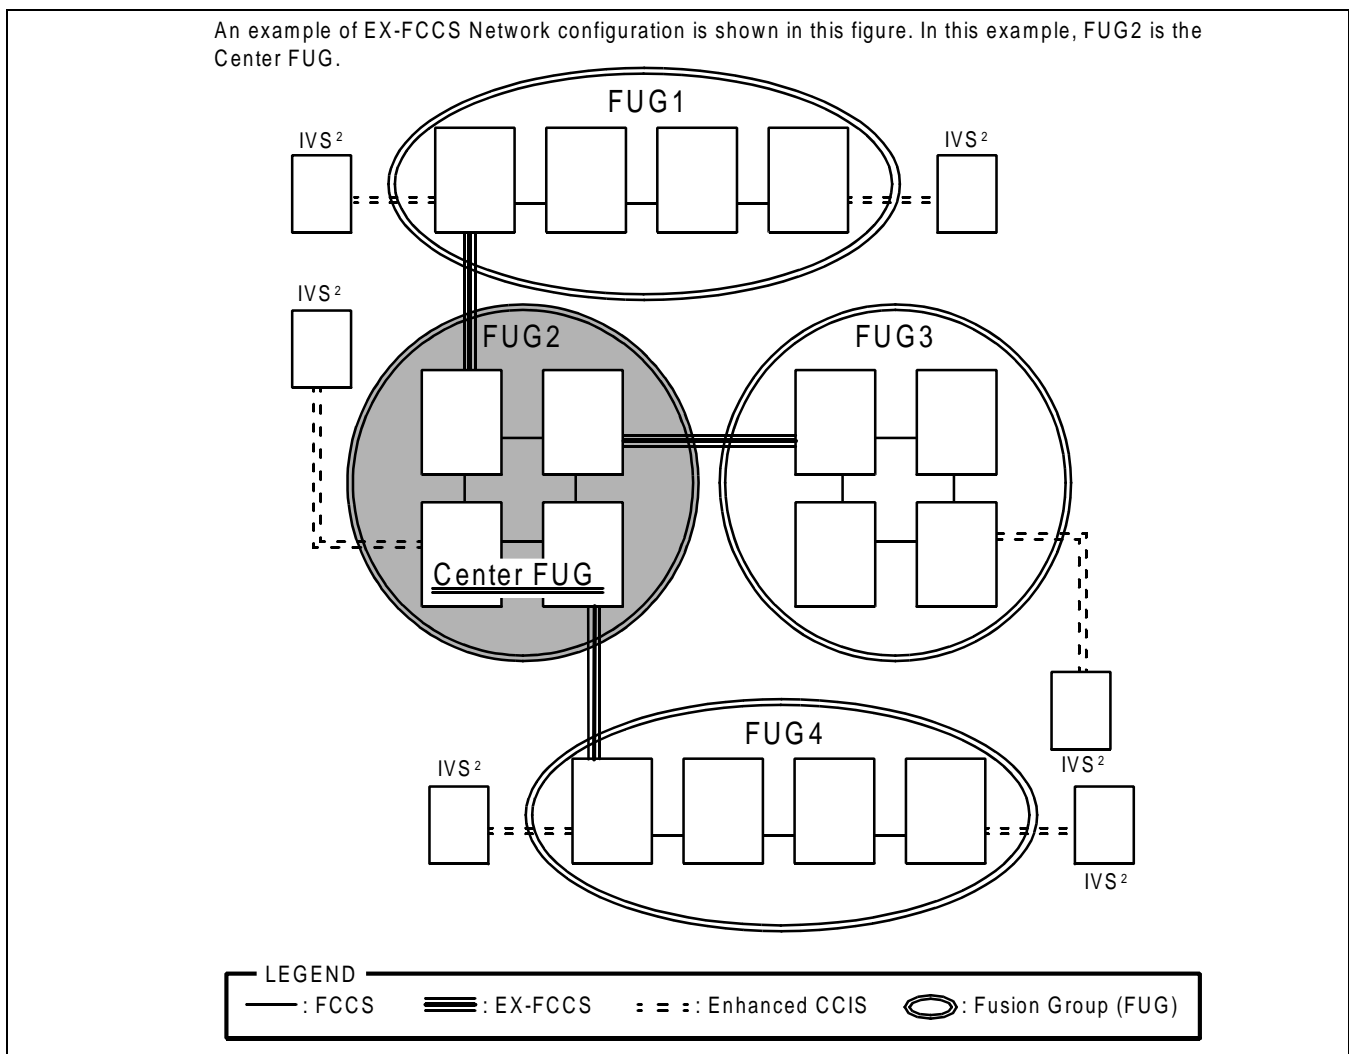

Figure 8-4 Allowable SPAN from the Center FUG
1. An EX-FCCS network may consist of FUGs (connected via EX-FCCS) and NEAX2000 IVS² systems (connected via Enhanced CCIS). All FUGs must be connected to the Center FUG within a range of 1 or 2 EX-FCCS links or 1 or 2 Enhanced CCIS links from the Center FUG. In order for an end-to-end connection to be established, no more than 4 EX-FCCS or Enhanced CCIS links may be used. See Figure 8-4.